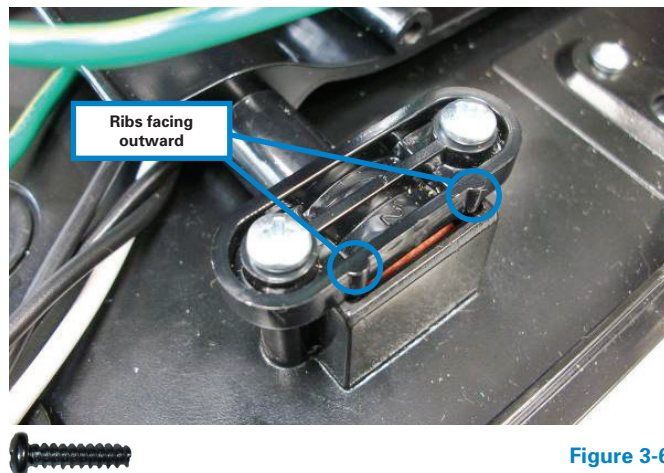

Figure 3-6
Step 3-6. Reinstall the **two (2)** screws and plastic housing retainer onto the foot of the dryer. Make sure that the ribs on the housing retainer is facing outward or facing away from the dryer. (**Figure 3-6**)